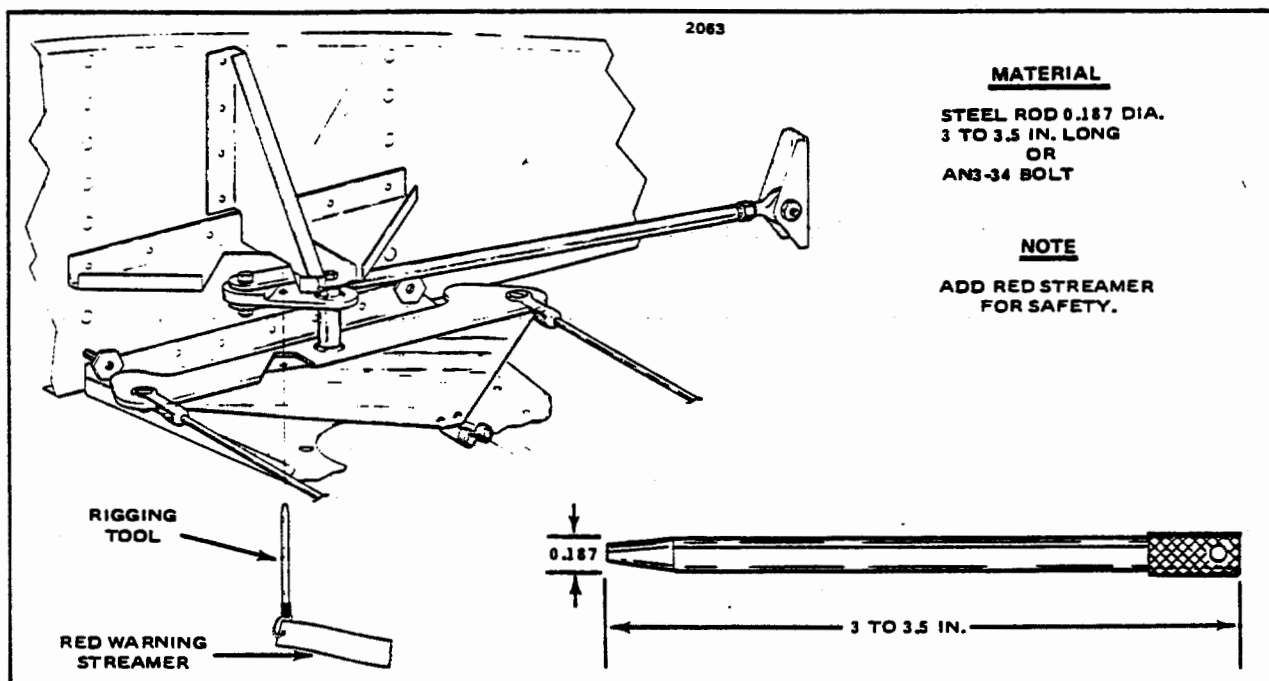
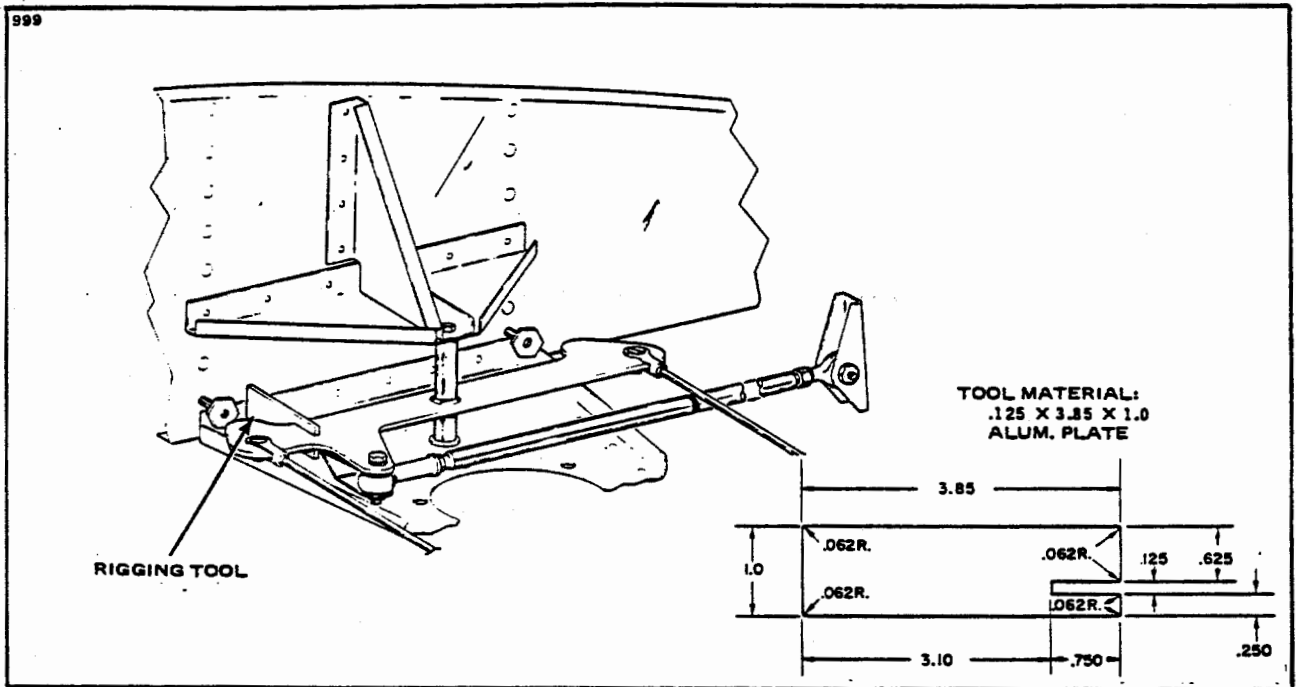

Figure 5-3. Bellcrank Rigging Tool (1974 and 1975 Models Only)
Figure 5-3a. Bellcrank Rigging Tool (1976 and Subsequent Models)
5-12. RIGGING AND ADJUSTMENT OF AILERON CONTROLS. (Refer to Figure 5-3 or Figure 5-3a.)
2. On 1974 and 1975 models install a bellcrank rigging pin, as shown in Figure 5-3, through the arm of each bellcrank and the support bracket. (This tool may be fabricated from dimension given in Figure 5-3.)
3. On 1976 and subsequent models affix a bellcrank rigging tool, as shown in Figure 5-3a, between the forward arm of each bellcrank and the adjacent rib. (This tool may be fabricated from dimensions given in Figure 5-3a.) The slotted end of the tool fits on the arm forward of and adjacent to the primary control cable end. The other end of the tool is positioned so that the side of the tool contacts the aft side of the bellcrank stop. The bellcrank must be moved to allow a snug fit of the tool between the bellcrank arm and rib. To do so, it may be necessary to loosen a primary control cable or the balance cable. The neutral position may also be found by locating the position at which the forward and aft cable connection holes are an equal distance from the adjacent outboard wing rib.